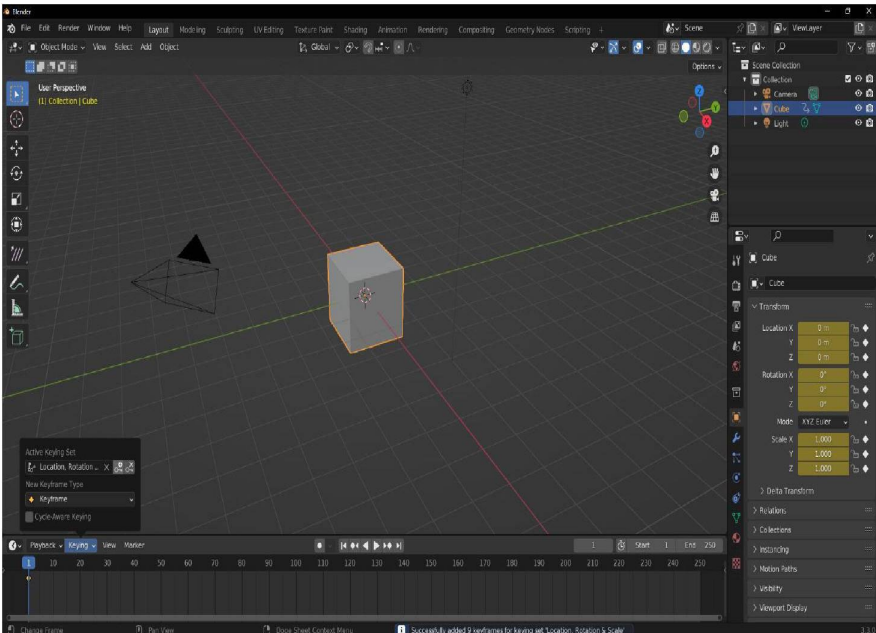

Figure 8.3: Setting a starting keyframe for the animation we are about to record
- Then, we will record the current **location, rotation, and scale** of the **Cube** object by opening the **Keying** drop-down menu again and pressing the icon appearing as a key with a small plus sign, as shown in *Figure 8.3*: